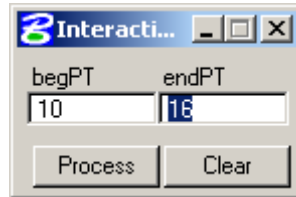
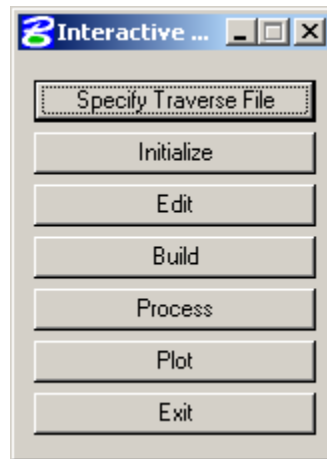

Figure 16.21: Interactive Traverse Dialogue Box
Figure 16.22: Interactive Traverse Sub-Menu Dialogue Box
4. A dialogue box as illustrated in Figure 16.22 will appear with seven buttons. Each of the seven commands are described in the Dialogue Box section following. At this time, specify the file used to store the traverse data by selecting the first button “**Specify Traverse File**”.
The Interactive Traverse dialogue box will appear as shown in Figure 16.21 below
After the data has been entered (use the “Process” button on the dialogue box in Figure 16.21 above), a sub menu dialogue will appear as shown in Figure 16.22 below.